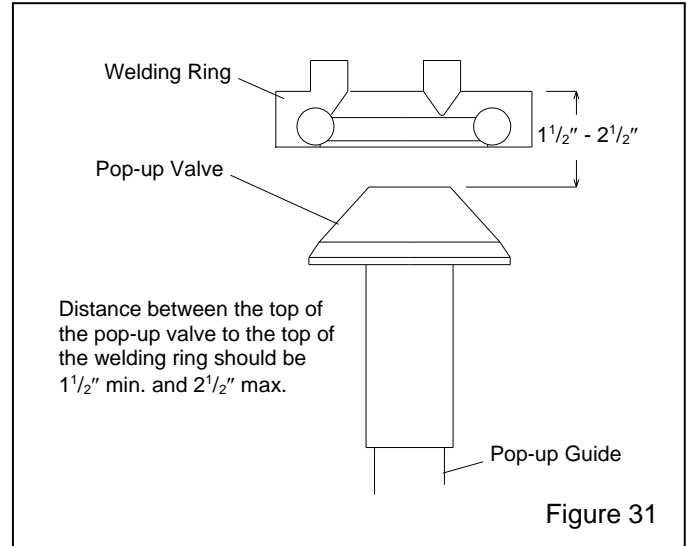

Figure 31
**6.9.6** Refer to Figure 31 to check the pop-up height. If the pop-up sits too low, misalignment could occur when the pop-up comes up against the seal. If the pop-up sits too high, it will take longer for abrasive to flow through the opening when filling. Adjust the height by replacing the guide with one that is longer or shorter.